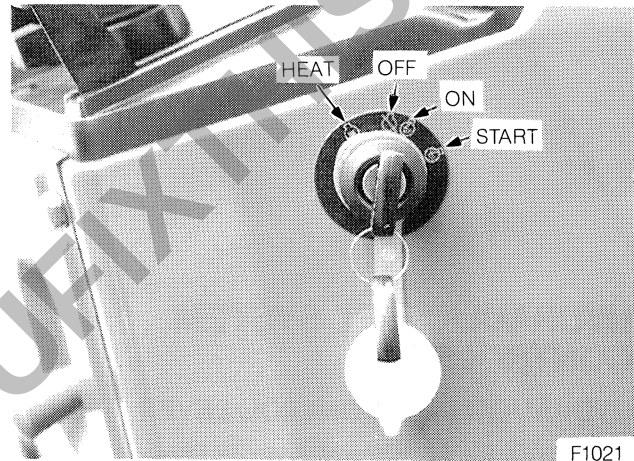

Figure 20 — Key Switch
3. Turn the key switch to the "START" position, Figure 20. When the engine starts, release the key. Check to be sure the warning lights go out. If the engine fails to start after cranking for approximately 10 seconds, refer to the following "COLD WEATHER STARTING" information.